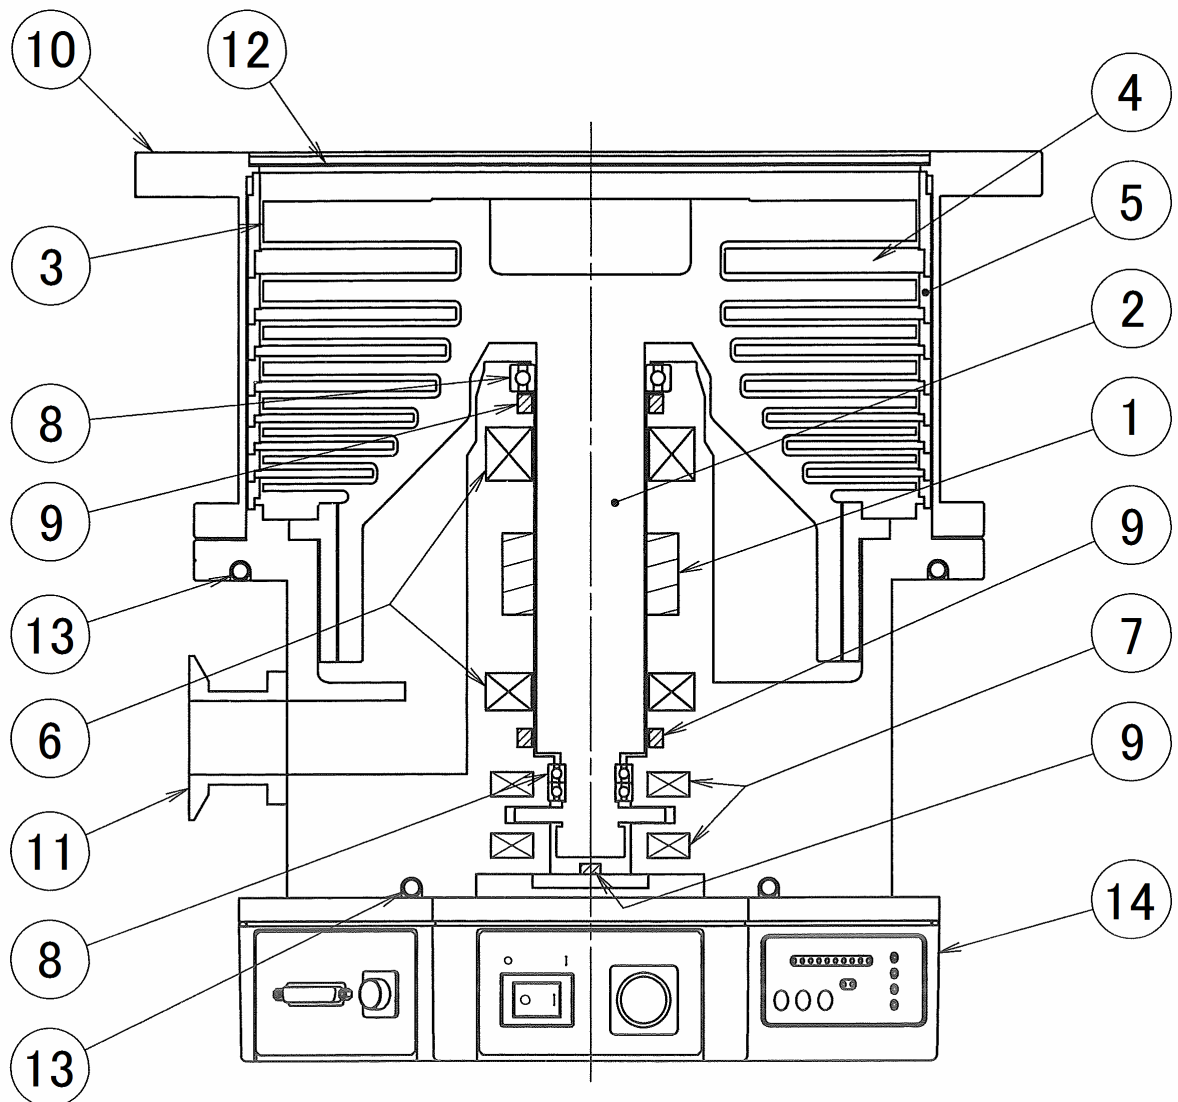

Fig.3-1 Pump Sectional Drawing
Fig. 3-1 is a sectional drawing of a magnetic bearing type turbo molecular pump. The built-in high frequency motor (1) is accelerated to the specified revolutions (speed) by the high frequency power supply unit. Rotor blades (3) are fitted onto the drive shaft (2) and the stator blades (4) are arranged in between the rotor blades. A positioning spacer (5) is inserted between the stator blades. The configurations and profiles of the stator blades and rotor blades are designed for high efficiencies in various applications. The upper stages of the rotor blade and stator blade configurations are ideally designed for high gas throughput. The compression ratio of the stator blades and rotor blades becomes higher as the gas molecules converge into the lower stage configurations. The profiles of the stator blades and rotor blades are matched for the desired function.